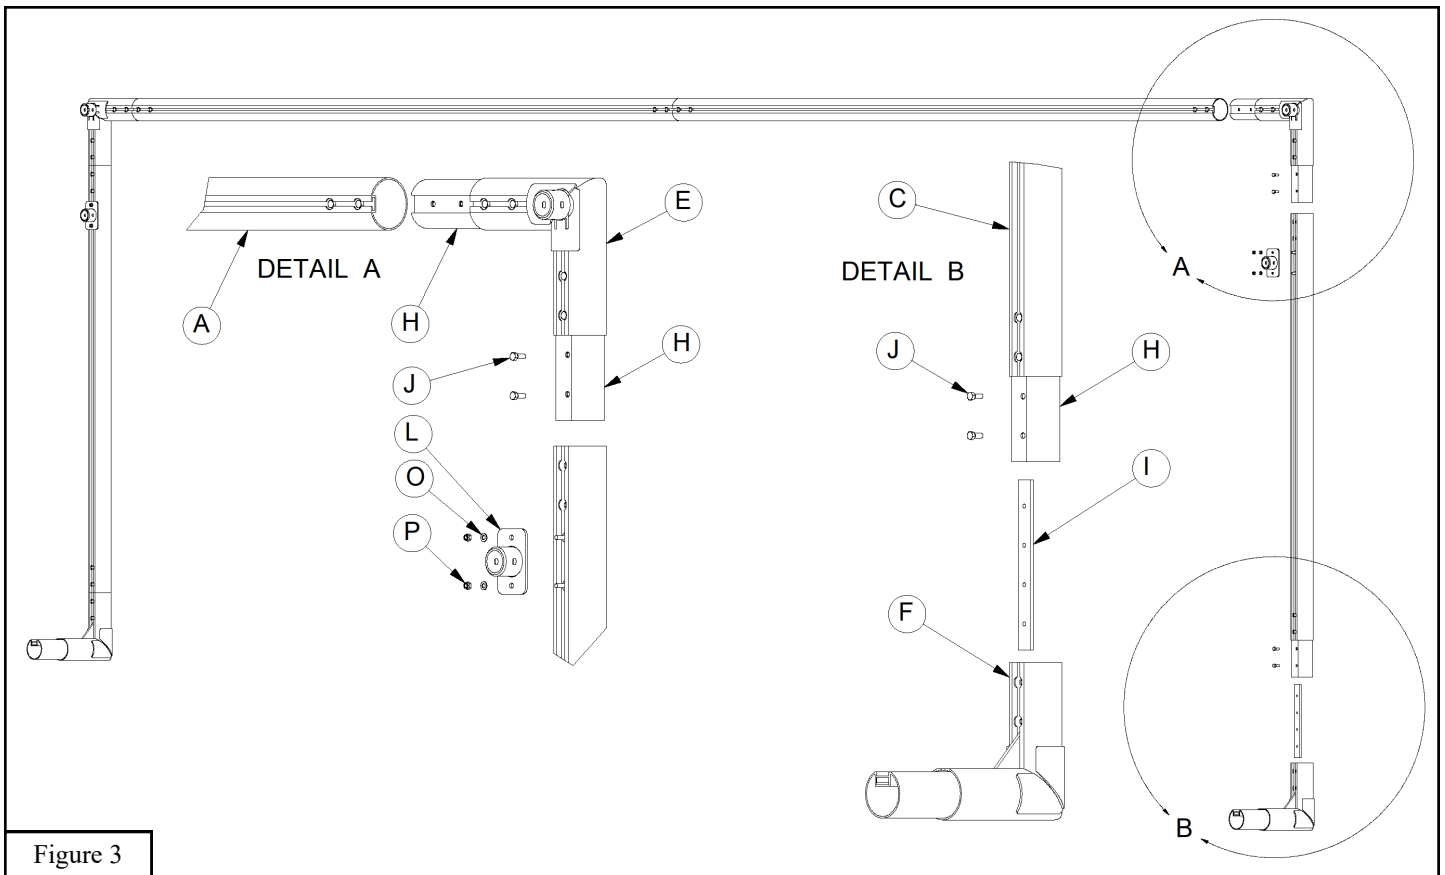

Figure 3
3. With the rear net attachment track facing upward, attach the corner assemblies from instruction #2 above onto the ends of two of the crossbar assemblies from instruction #1 above using the *3/8" X 1" Hex Bolts* (J). See Figure 3.
4. Attach the *Uprights* (C) to the crossbar and corner assemblies in instruction #3 above using the  $3/8'' \times 1''$  Hex Bolts (J) See Figure 3.
5. To install *European Backstays* (K), insert the head of the two  $5/16'' \times 1''$  Carriage Bolts (N) into the net attachment tracks at the bottom of each *Upright* (C) and slide upward to the approximate position. Loosely attach the *Backstay Mounting Brackets* (L) using  $5/16''$  Flat Washer (O) and  $5/16''$  Nylon Lock Nut (P). See Figure 3.
7. Attach the *Bottom Corners* (F) to the *Uprights* (C) using the *Short Inner Connecting Tubes* (H),  $3/8'' \times 1''$  Hex Bolts (J) and *Connecting Bars* (I). See Figure 3.